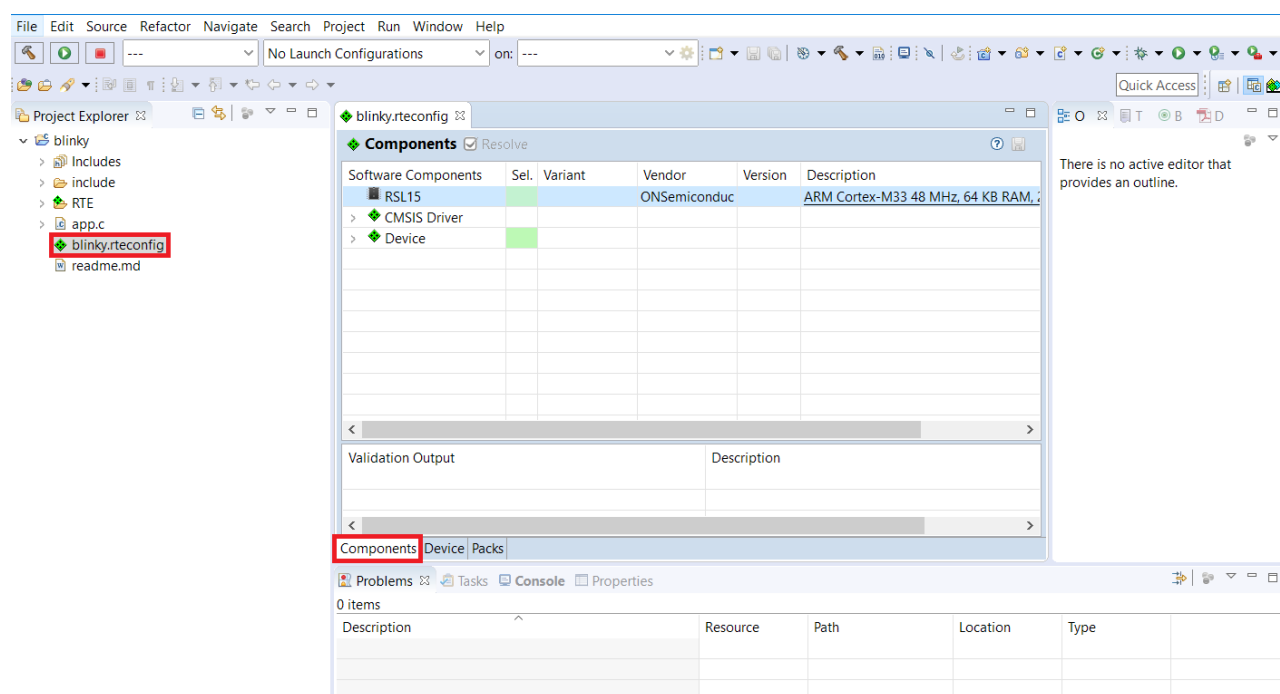

Figure 49. Opening the .rteconfig file in the onsemi IDE
1. From the C/C++ perspective, open any RTE configuration file, such as `blinky.rteconfig` (see the "Opening the .rteconfig file in the onsemi IDE" figure (Figure 49)).